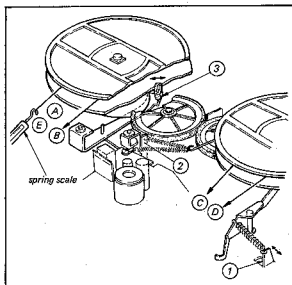

Fig. 4-13. Brake torque adjustment
3. Set the Function Lever to STOP. Check that the Right Rewind Idler is clear of the Idler Stopper by 0.5 to 1 mm. See Fig. 4-13. If this condition does not exist, bend the Idler Stopper with a pair of pliers.
- Set the Function Lever to STOP. Place an empty reel with several turns of string wrapped around the hub onto the Supply Reel Table as shown in Fig. 4-13. Attach the string to the spring scale. Pull the scale at a speed of approximately 4 inches/sec. Check the reading for brake torque. It should be more than 800 g-cm.
- Repeat the above brake-torque checks for B, C, and D as indicated in Fig. 4-13. The brake torques should be less than 400 g-cm for the direction of B and C and more than 800 g-cm for the direction of D.
indicated by E in Fig. 4-13. It should be more than 800 g-cm.